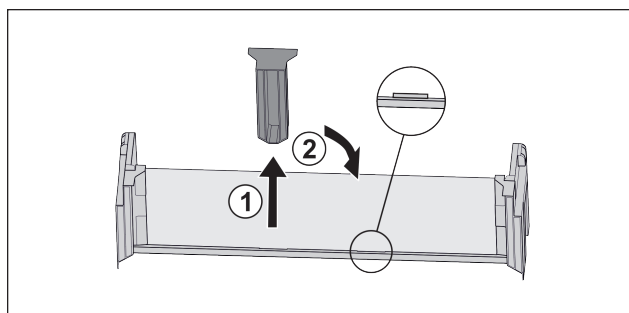

Fig. 23
- ▶ Pull off the middle holder Fig. 23 (1).
- ▶ Insert the middle holder in the second position Fig. 23 (2).